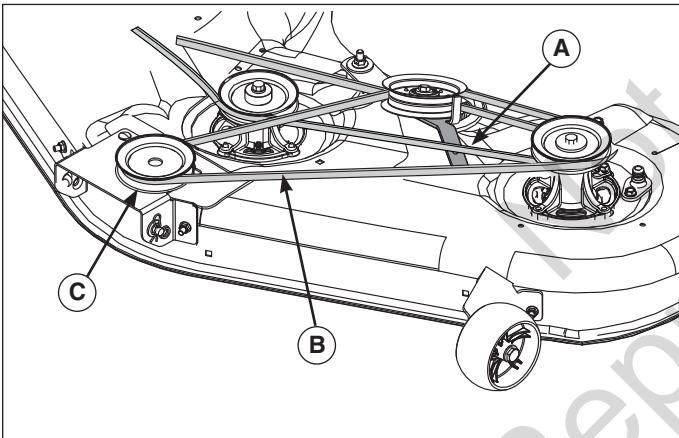

Figure 18
5. Pull the idler pulley lever (**A**, Figure 18) to release belt tension. Remove belt (**B**) from PTO pulley (**C**).
6. Pull the idler pulley lever (A, Figure 18) to release belt tension. Install belt (B) on the PTO pulley (C).